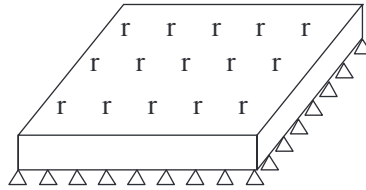

**Figure P12–11**
**12.11** A square steel plate 2 m by 2 m and 10 mm thick at the bottom of a tank must support salt water at a height of 3 m, as shown in Figure P12–11. Assume the plate to be built in (fixed all around). The plate allowable stress is 100 MPa. Let  $E = 200$  GPa,  $\nu = 0.3$  for the steel properties. The weight density of salt water is  $10.054 \frac{kN}{m^3}$ . Determine the maximum principal stress in the plate and compare to the yield strength.